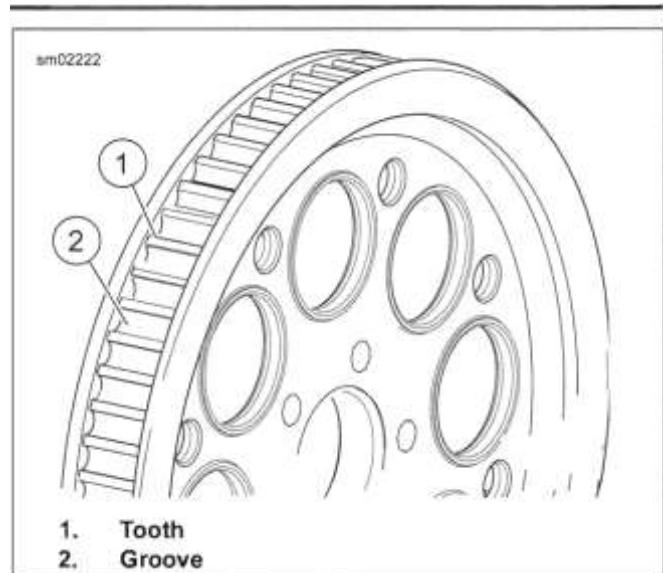

Figure 2-32. Rear Sprocket
1. See Figure 2-32. Inspect each tooth (1) of rear sprocket for:
2. Check for worn chrome plating. Drag a sharp object across the bottom of a groove (2) using medium pressure.